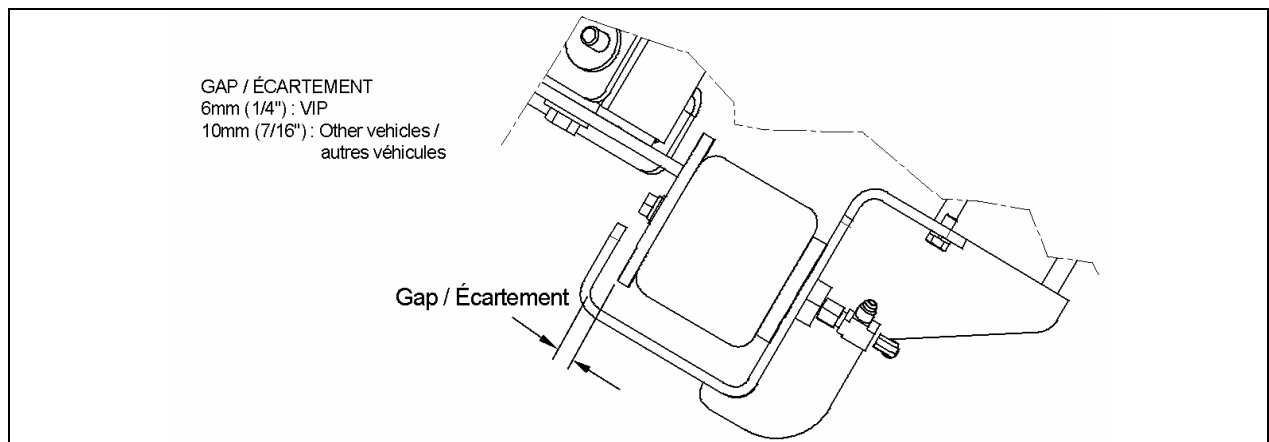

FIGURE 7: GAP MEASUREMENT
7. Reapply the air pressure to the bellows. Check if the gap (see figure 7) between the stop and the plate at the top of the bellows is as specified.